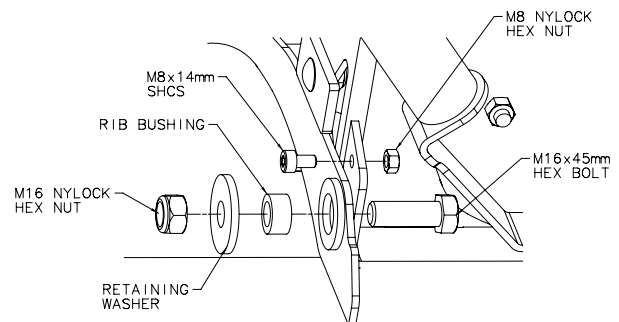

Figure 3 Attach Blade to Tube Base
4. Attach the plow blade to the plow base as shown in Figure 3. Run a 16mm dia bolt through the plow blade and base and then through the large retainer washer and rib bushing. The rib bushing should rest inside the large hole in the side of the plow blade rib. Terminate with a 16mm dia lock nut. Torque the M16 bolt and then check to make sure the blade rotates freely. It is recommended to use a light lubricating oil on all plow bushings.